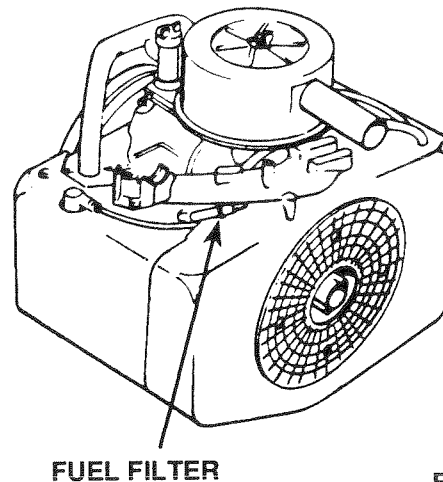

FIGURE 23
- Remove Hose Clamps from Fuel Lines at Fuel Filter (Fig. 23).